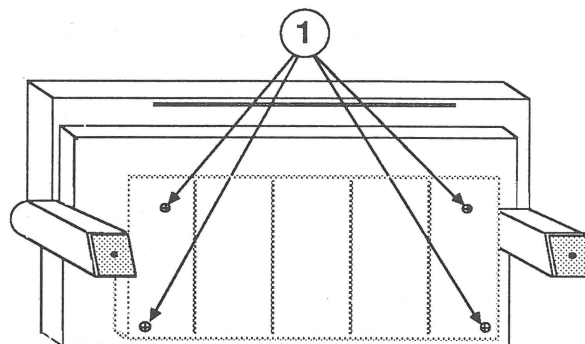

FIGURE 17
8. Turn the printer upside down and loosen the four screws as far as they will go (Figure 17, #1).